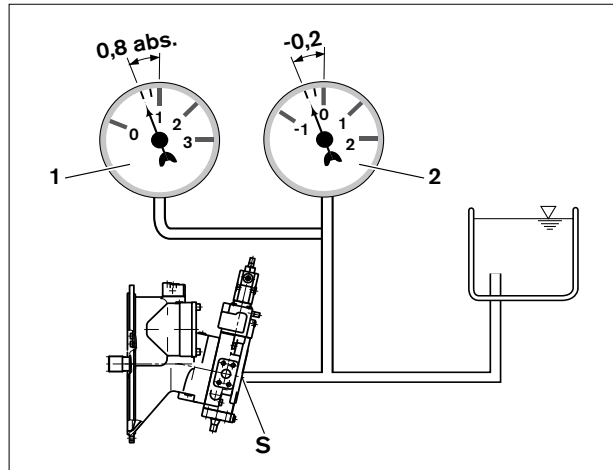

Fig. 8: Suction pressure
- Make certain that a minimum suction pressure of 0.8 bar absolute is present at port "S" during operation in all installation positions and installation locations for the axial piston pump, see Fig. 8. See data sheet for additional values.